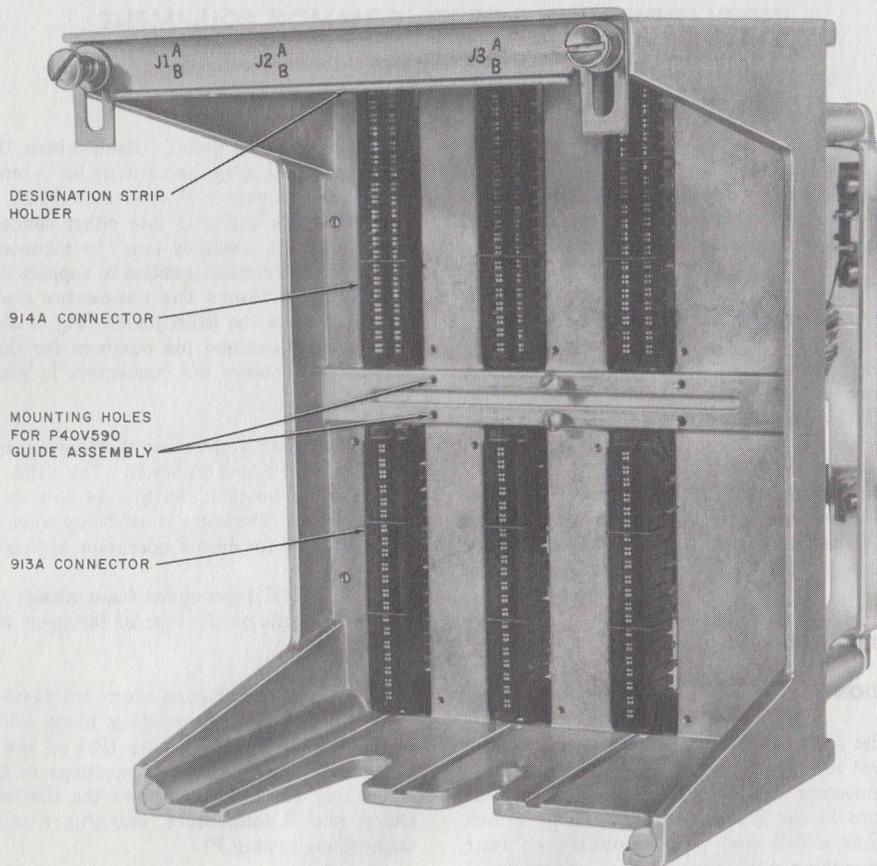

Fig. 1—615A Panel (Front View)
2.01 The 615A panel (Fig. 1 and 2) consists of a cast aluminum carrier equipped with three 914A connectors in the upper row and three 913A connectors in the lower row. The 6- by 8-inch carrier has a full rear panel mounted on four standoffs making it 9-1/4 inches deep. The vertical rack space required is 8 inches (9 inches when mounted on 99B brackets).